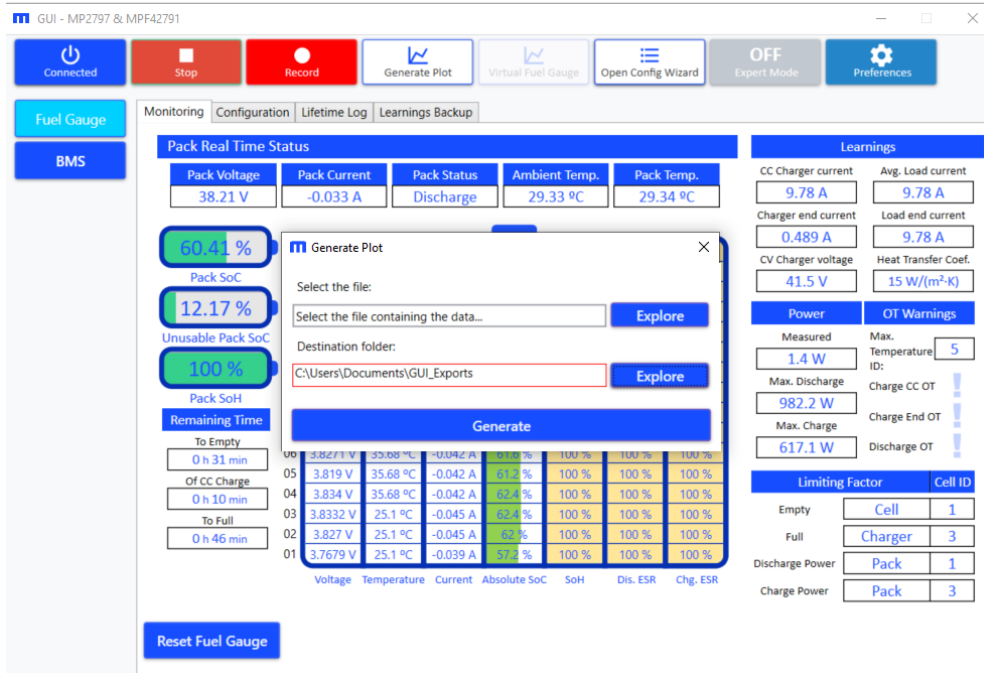

Figure 56: Plotting Wizard
2. The Generate Plot window should open. In this window, the user can select a “.csv” file to plot, as well as the directory to which the plots are stored. The default destination folder is configured via the GUI’s Preferences section (see Section 3.4 on page 28) (see Figure 56).